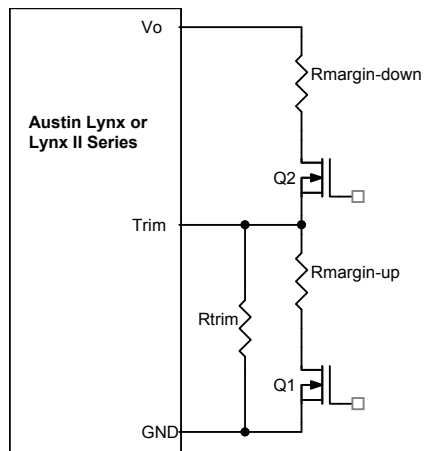

Figure 31. Circuit Configuration for margining Output voltage.
To provide over temperature protection in a fault condition, the unit relies upon the thermal protection feature of the controller IC. The unit will shutdown if the thermal reference point T_{ref2} , (see Figure 31) exceeds $150^{\circ}C$ (typical), but the thermal shutdown is not intended as a guarantee that the unit will survive temperatures beyond its rating. The module will automatically restarts after it cools down.
Output voltage margining can be implemented in the Austin MicroLynx™ modules by connecting a resistor, $R_{margin-up}$, from Trim pin to ground pin for margining-up the output voltage and by connecting a resistor, $R_{margin-down}$, from Trim pin to Output pin. Figure 31 shows the circuit configuration for output voltage margining. The POL Programming Tool, available at www.lineagepower.com under the Design Tools section, also calculates the values of $R_{margin-up}$ and $R_{margin-down}$ for a specific output voltage and % margin. Please consult your local Lineage Power technical representative for additional details.